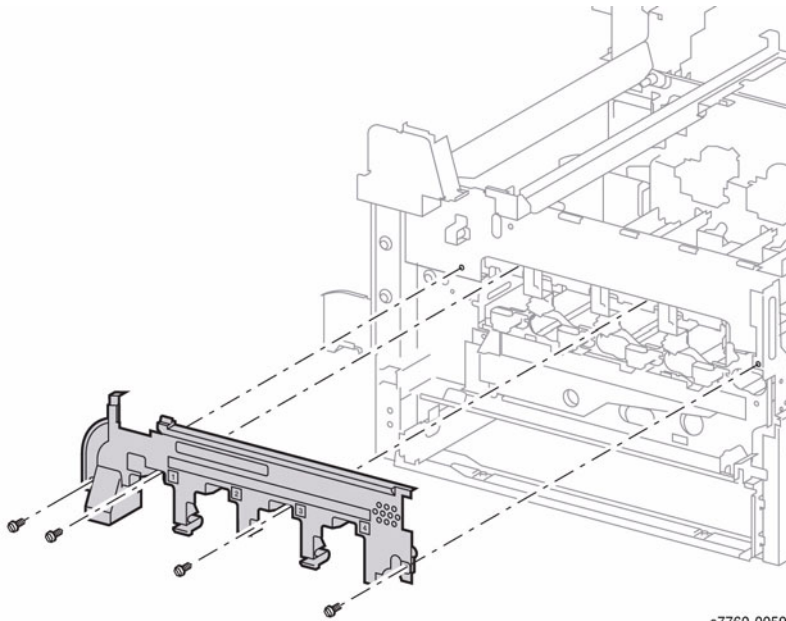

Figure 1 Removing Dispenser Cover
6. Remove the 4 screws and remove the Dispense Cover (Figure 1).